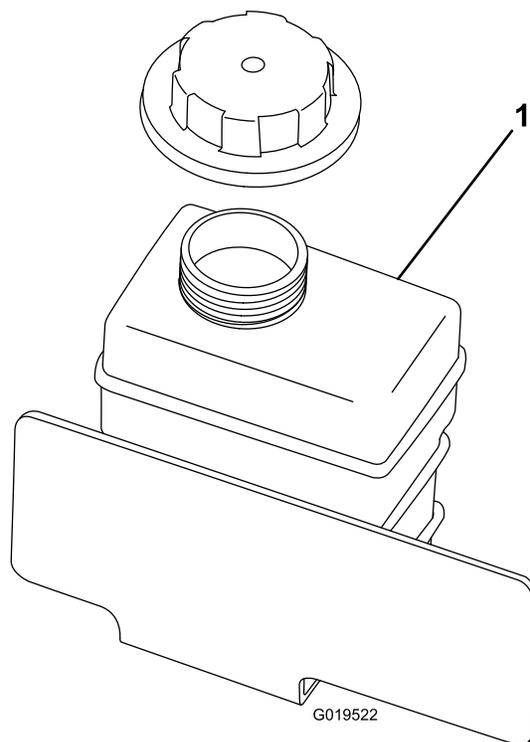

Figure 25
2. Check the coolant level at the reserve tank (Figure 25).